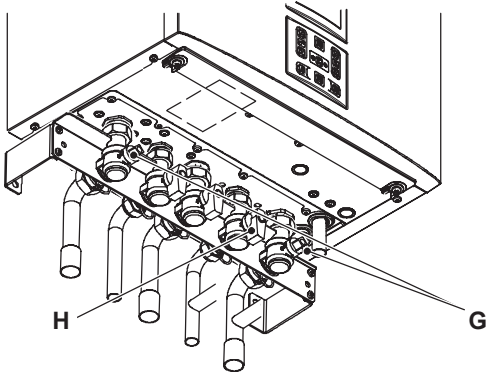

Figure 2.10
- 1 Close the c.h. circuit flow and return cocks G (Figure 2.10).
- 1 Close the d.c.w. inlet cock H (Figure 2.10).